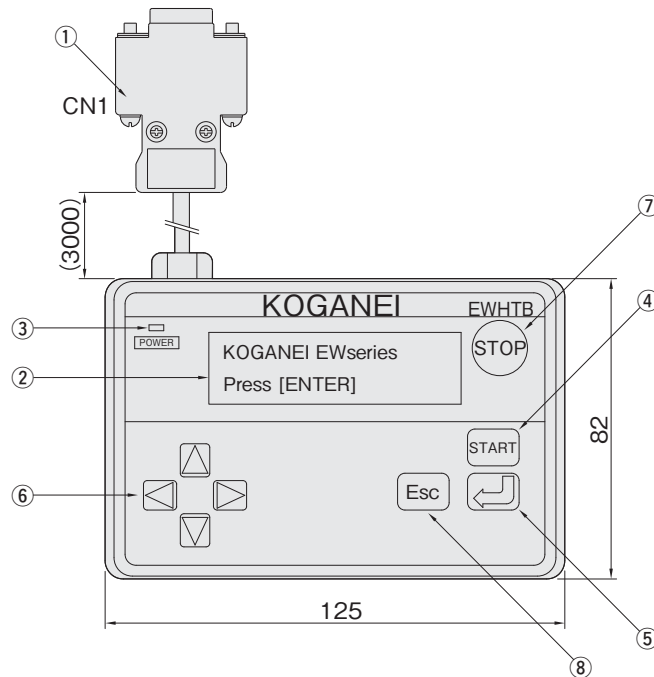

Figure 1 Appearance and functions
- Power is being supplied normally if the Power LED (number ③ in Figure 1) on the teaching box lights up and stays on.